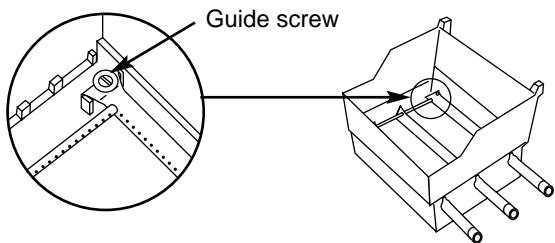

Figure 16
f) Slide the burner assembly out from under the guide screw and washer in the corners of the cooking box. Figure 16.